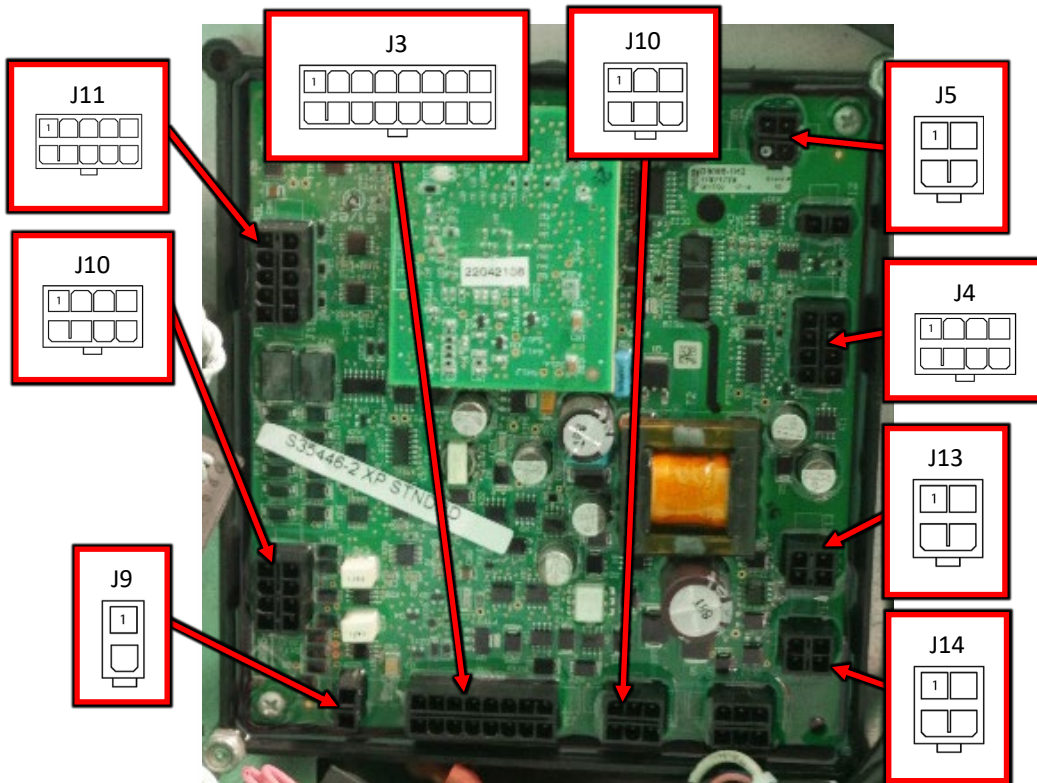

Figure F.3
B.2. Perform the measurements identified in Test Table 2 below, refer to Figure F.3 for test point locations.